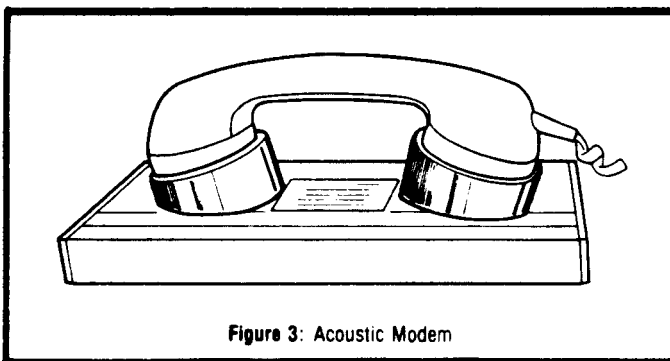

Figure 3: Acoustic Modem
•Acoustic and Direct-connect: In the "old days" the phone company wouldn't let us connect anything directly to their lines without paying dearly to lease their interface devices. Now, you can connect any "FCC approved" device yourself. When we couldn't tamper with the lines the only answer was "acoustic coupling." This meant physically sticking the telephone receiver into a pair of muffs built into the modem, where communication took place via the earpiece and mike (see Figure 3). This is now considered old-fashioned but it still has advantages. It's quick and easy, and it doesn't change your phone installation in any way. It works great if (a) you have a good quality handset, and (b) you aren't in a really noisy place, like the engine room in a boiler plant. If you plan on using a portable computer an acoustic modem is almost a necessity (such as, for use in a public phone booth.) On the other hand many of the new handsets are of a shape or size that do not permit them to fit into an acoustic modem. The "Star Trek" communicator type is one such example.
I haven't shown all the bypass capacitors specifically. You should scatter them around the circuit depending on your past experience(?) for deciding how many. Very conservative designers use a .1 uf ceramic disk per chip but I think that is a bit of overkill. I generally use one bypass cap for every 2 ICs but you can stretch this a bit further in the RAM chip area here since, being CMOS, they have a very low power drain and don't create heavy switching transients the way TTL does. See Figure 3 for a photo showing the board layout and location of bypass caps.